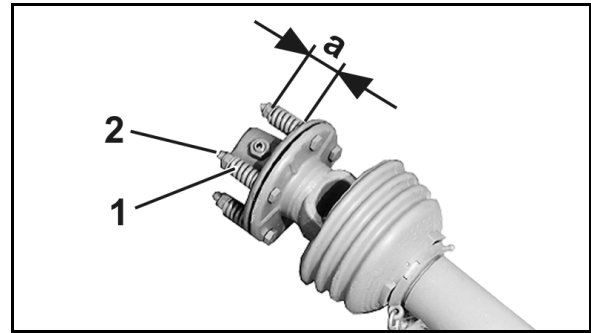

Fig. 79
2. Relieve the springs (Fig. 79/1) by unscrewing the nuts (Fig. 79/2).